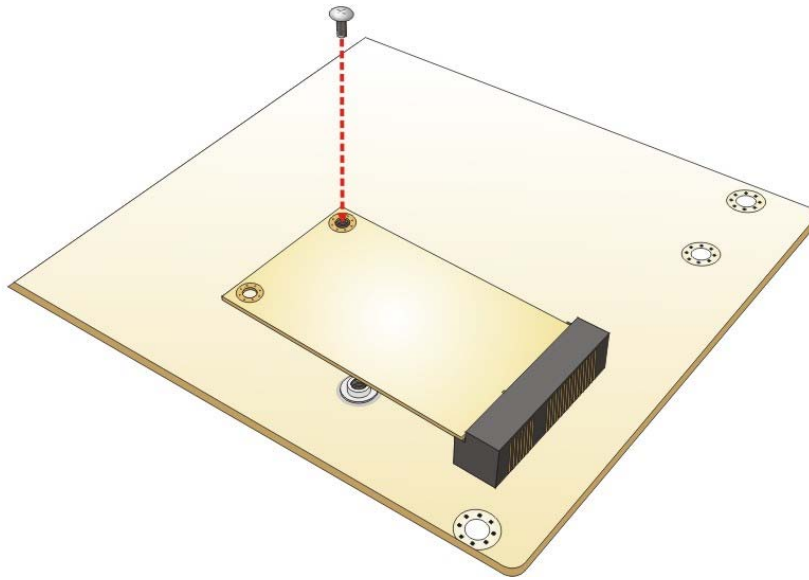

Figure 4-7: Securing the Full-size PCIe Mini Card
Step 4: Secure the full-size PCIe Mini card. Secure the full-size PCIe Mini card with the retention screw previously removed (Figure 4-7).